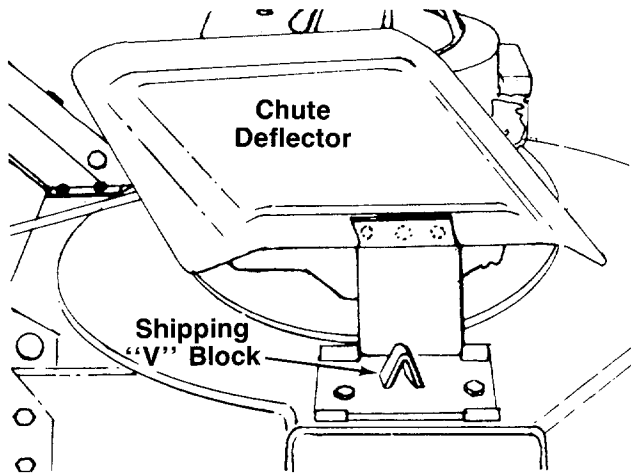

FIGURE 10.
2. The chute deflector on your mower is held in an upright position by a "V" block for shipping purposes only. This "V" block must be removed and discarded before the mower is put into operation. See figure 10.